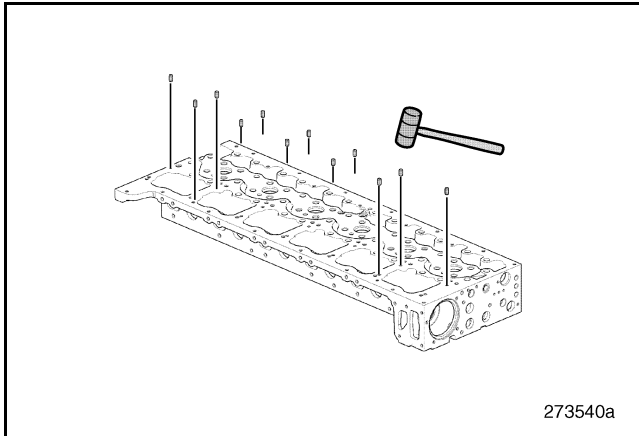

Figure 462 — Locating Pin Installation
4. Install 12 **new** locating pins from the parts kit at the cylinder head locations illustrated (Figure 462). Use a plastic mallet so as not to damage the locating pins.